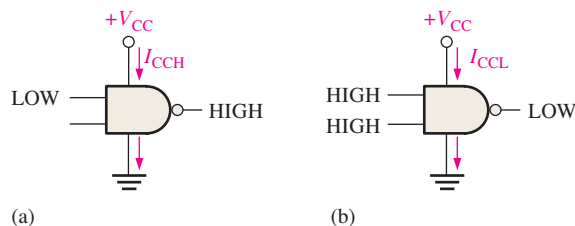

FIGURE 15–6 Currents from the dc supply. Conventional current direction is shown. Electron flow notation is opposite.
acceptable HIGH (logic 1) are from 3.5 V to 5 V for the 5 V logic and 2 V to 3.3 V for the 3.3 V logic, as indicated in Figure 15–2. The ranges of values from 1.5 V to 3.5 V for 5 V logic and 0.8 V to 2 V for 3.3 V logic are regions of unpredictable performance, and values in these ranges are unacceptable. When an input voltage is in one of these ranges, it can be interpreted as either a HIGH or a LOW by the logic circuit. Therefore, CMOS gates cannot be operated reliably when the input voltages are in these unacceptable ranges.
The ranges of CMOS output voltages (V_{OL} and V_{OH}) for both 5 V and 3.3 V logic are also shown in Figure 15–2. Notice that the minimum HIGH output voltage, $V_{OH(min)}$, is greater than the minimum HIGH input voltage, $V_{IH(min)}$. Also, notice that the maximum LOW output voltage, $V_{OL(max)}$, is less than the maximum LOW input voltage, $V_{IL(max)}$.
The input and output logic levels for TTL are given in Figure 15–3. Just as for CMOS, there are four different logic level specifications: V_{IL} , V_{IH} , V_{OL} , and V_{OH} .
A logic gate draws current from the dc supply voltage source, as indicated in Figure 15–6. When the gate is in the HIGH output state, an amount of current designated by I_{CCH} is drawn; and in the LOW output state, a different amount of current, I_{CCL} , is drawn.
Power dissipation in a TTL circuit is essentially constant over its range of operating frequencies. Power dissipation in CMOS, however, is frequency dependent. It is extremely low under static (dc) conditions and increases as the frequency increases. These characteristics are shown in the general curves of Figure 15–7. For example, the power dissipation of a low-power Schottky (LS) TTL gate is a constant 2.2 mW. The power dissipation of an HCMOS gate is 2.75 μW under static conditions and 170 μW at 100 kHz.
When a signal passes (propagates) through a logic circuit, it always experiences a time delay, as illustrated in Figure 15–8. A change in the output level always occurs a short time, called the **propagation delay time**, later than the change in the input level that caused it.
These propagation delay times are illustrated in Figure 15–9, with the 50% points on the pulse edges used as references.